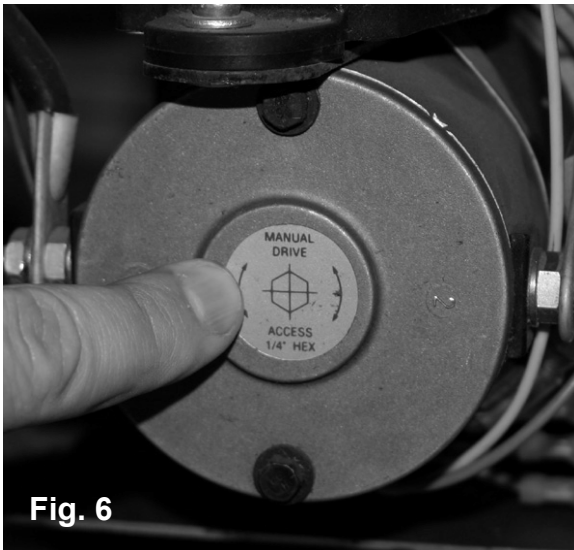

Fig. 6
1. Remove protective label. (See Fig 6).